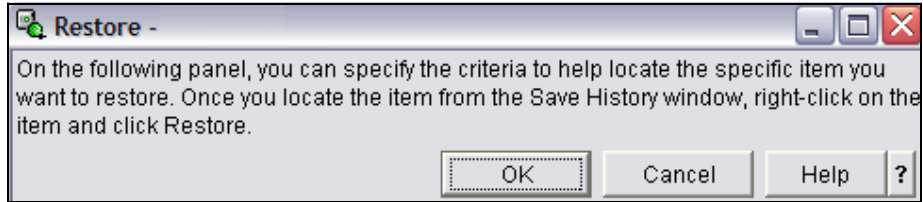

Figure 7-63 BRMS Restore instructions
2. Select **Restore iSeries data**. A dialog box appears, telling you how to use the next window. Click **OK**, as shown in Figure 7-63 on page 391.